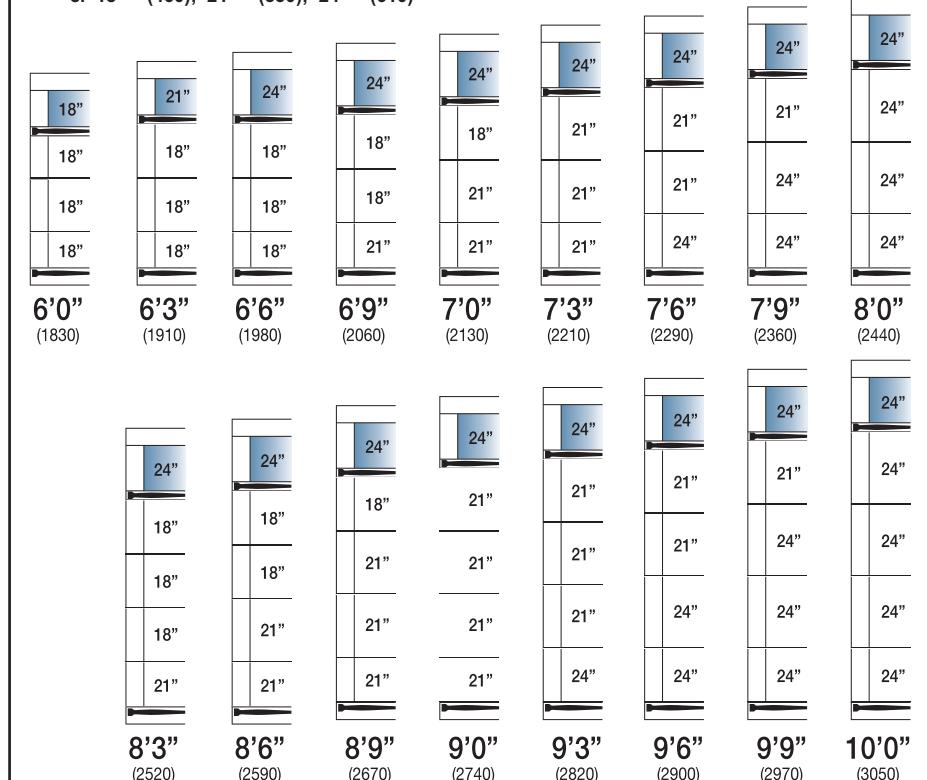

FIGURE 7
- Decide, mark, drill, and fasten the remaining hinges and handles following the completed door example. See FIGURE 7